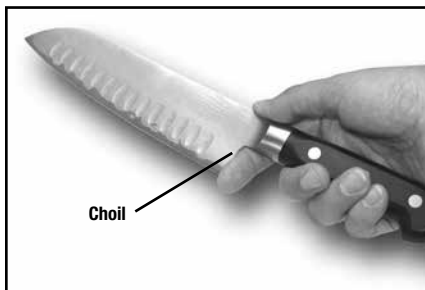

Figure 16. If your blade has a significant choil it may be helpful to place a finger behind it as shown when sharpening.
7. If your knife has a significant choil you may find it helpful to place your index finger within or just behind the choil (see Figure 16) as you insert the blade in the sharpener. (Be careful,